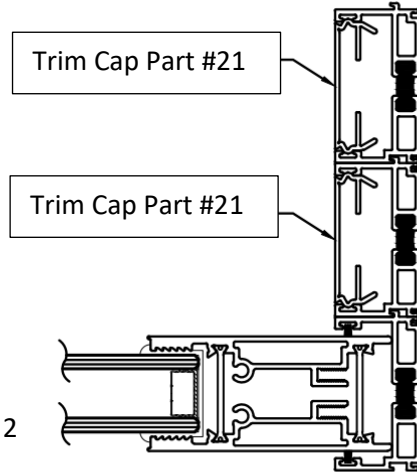

Figure 2
35. Install thresholds (Part #22) into the exterior and center sill tracks (Part #16a) shown in figure 1 and the trim cap (Part #21) of the same length into the exterior and center head tracks (Part #14) shown in figure 2.